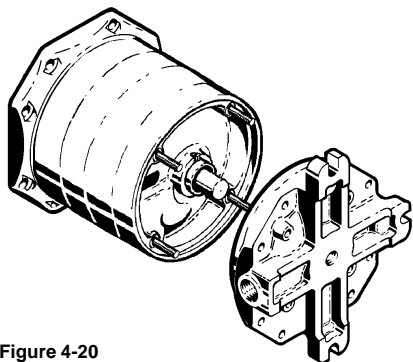

Figure 4-20
17. Install one (1) "O"Ring (#8) on each of the four Guide Rods (#18)
- c. With the "O"Ring facing the last channel ring, slide the Outlet Cover (#2) over the Guide Rods. The outlet port should be oriented 180° from the inlet port on close coupled units. The outlet port should be oriented on the same side as the inlet port on horizontal units. Push on firmly until the "O"Ring fits inside the lip of the channel ring. Refer to figure 4-20.
22. Install one (1) "O"Ring (#8) on each of the four Guide Rods (#18)
- c. With the "O"Ring facing the last channel ring, slide the Outlet Cover (#2) over the Guide Rods. The outlet port should be oriented 180° from the inlet port on close coupled units. The outlet port should be oriented on the same side as the inlet port on horizontal units. Push on firmly until the "O"Ring fits inside the lip of the channel ring. Refer to Figure 4-20.
25. Insert the eight (8) Thru Bolts (#19) through the holes in the outlet cover and the inlet cover. Thread one (1) Nut (#20) on each of the eight Thru Bolts and on the end of each Guide Rod (#18). Using two 9/16" wrenches or sockets, tighten the bolts/nuts systematically, alternating diagonally across the cover, until they are about one full turn short of being fully torqued.
28. Install the motor over the endbell/pump assembly and tighten the four (4) long hex screws that connect the motor to the endbell. You may find it easier to lay the unit on its side for this operation.